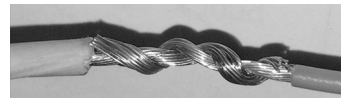

FIG. 66
2. Slide 1.5 inches of shrink tubing over end of one piece of wire (FIG. 66).